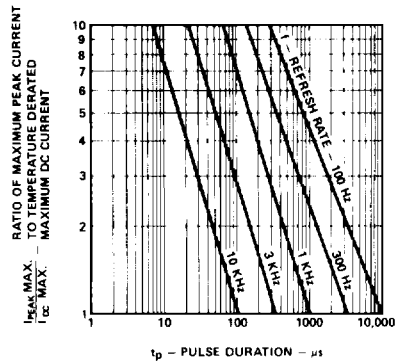

Figure 6. Maximum Tolerable Peak Current vs. Peak Duration (I_{PEAK} MAX Determined from Temperature Derated I_{DC} MAX).
2. Refer to Figure 6 to establish pulsed operating conditions.